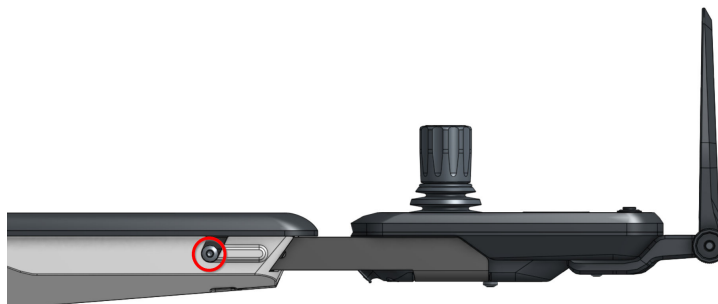

Figure 14. Screws to be loosened to adjust the position of the control panel (loosen on both sides)
1. Loosen the two screws (Figure 14, "Screws to be loosened to adjust the position of the control panel (loosen on both sides)" [24]).